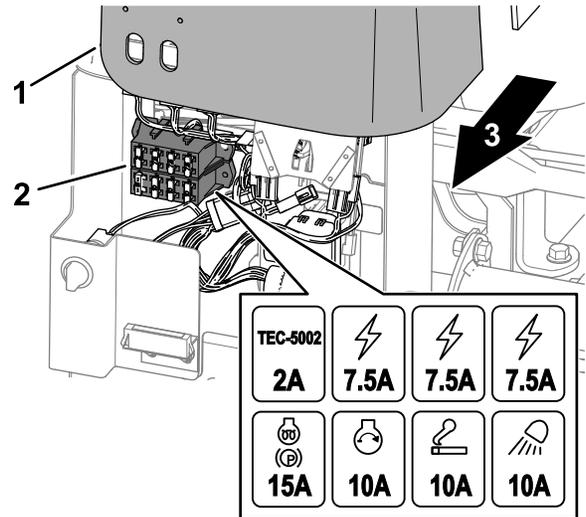

Figure 70
1. Lift the cover from the control arm (Figure 70).
2. Locate the open fuse in the fuse holder or fuse block (Figure 70).
4. Assemble the cover onto the control arm (Figure 70).